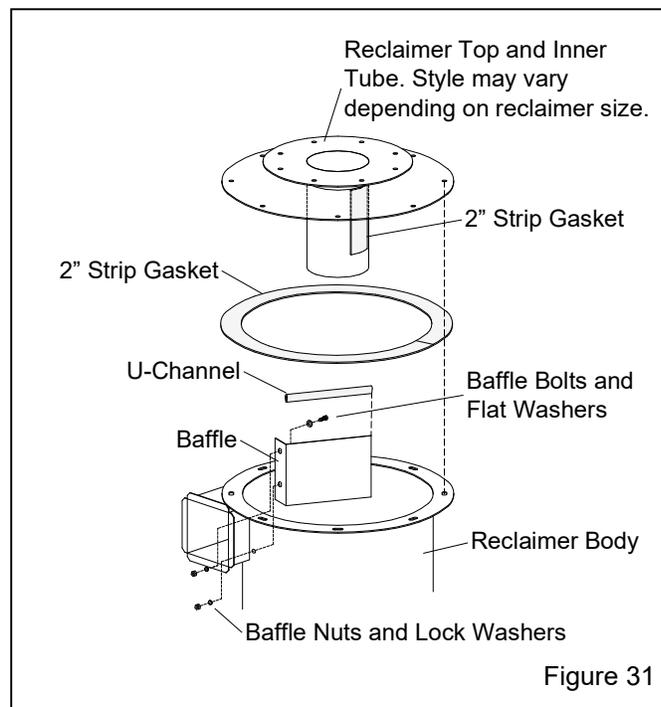

Figure 31
The reclaimer must be designed to accept liners and have a removable top, as shown in Figure 31. **NOTE: The following instructions are to replace existing liners or field installing new liners into modular style 900 cfm and 1200 cfm reclaimers only. Modular reclaimers have an upper**
7.10 Removing or Replacing Reclaimer Inlet Baffle Figure 31